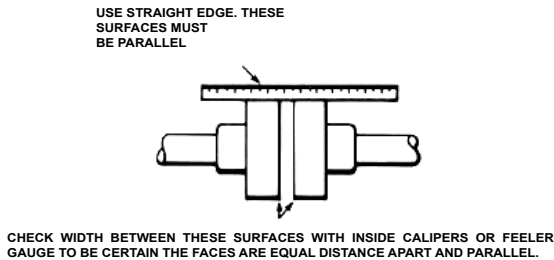

FIGURE 3
2. If the unit has a flexible coupling, remove any coupling guards or covers and check alignment of coupling halves. A straight edge (piece of key stock will work) across the coupling must rest evenly on both rims at the top, bottom and sides. See Figure 3.